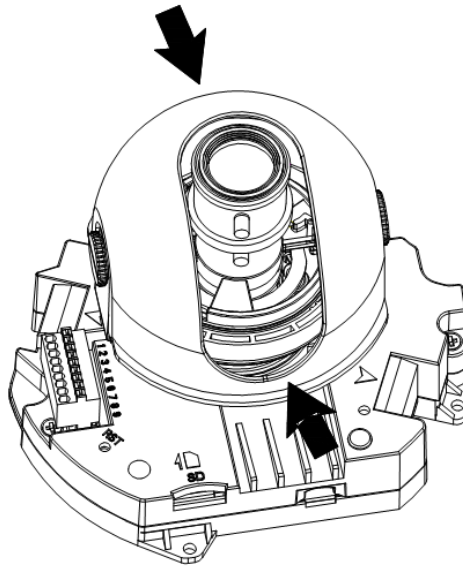

Figure 2-3 Installation 2
a) For the IR series product, you can skip current step and go the step b) directly. For the non-IR series product, push the port slightly to remove the decoration enclosure from the black plastic enclosure. See Figure 2-3.